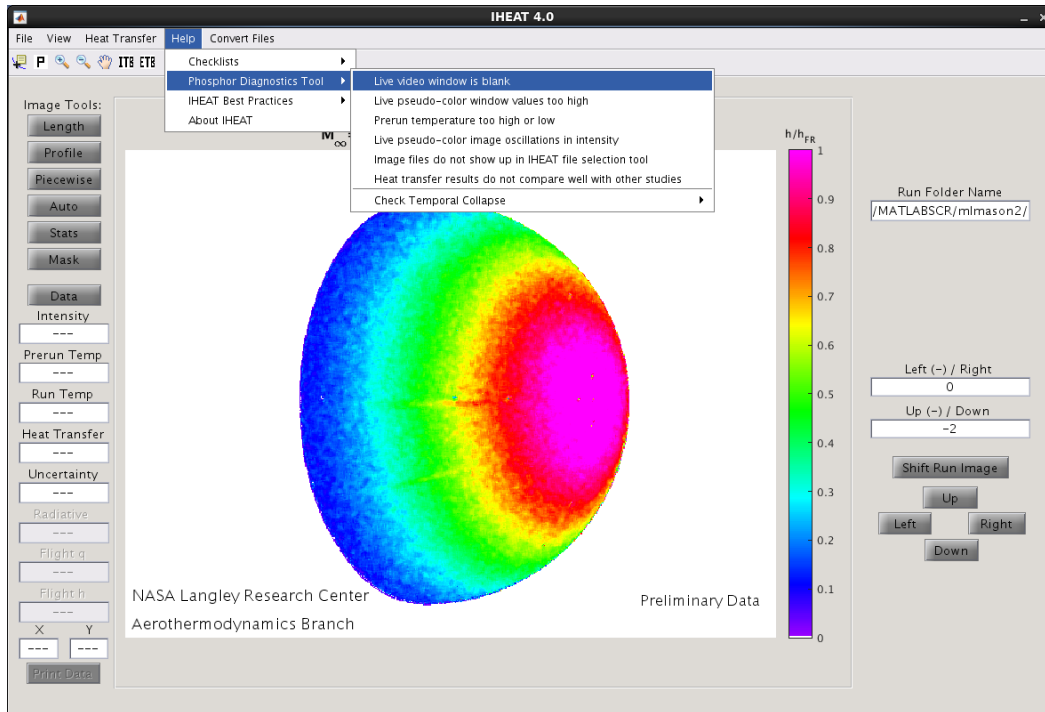

Figure 8: Help Menu, Phosphor Diagnostics Tool.
2. *Phosphor Diagnostics Tool*: This tool lists hints for resolving possible phosphor test problems, as shown in figure 8, which are viewed in the IHEAT v4.0 terminal window.